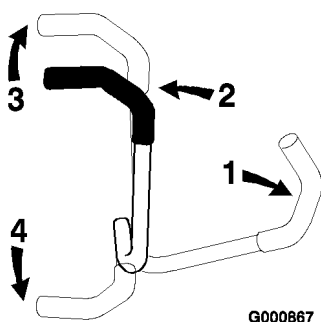

Figure 12
3. To go forward, slowly push the motion control levers forward (Figure 12).
To go straight, apply equal pressure to both motion control levers (Figure 12).
To turn, release pressure on the motion control lever toward the direction you want to turn (Figure 12).
2. To go backward, slowly pull the motion control levers rearward (Figure 12).
To turn, release the pressure on the motion control lever toward the direction you want to turn (Figure 12).